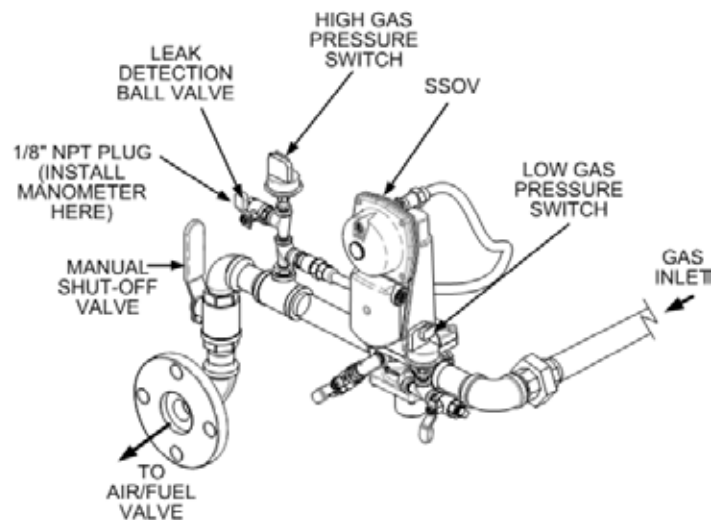

Figure 4-1. 1/8 Inch Gas Plug Location
3. Remove the 1/8 inch NPT pipe plug from the leak detection ball valve on the downstream side of the Safety Shut Off Valve (SSOV) as shown in Figure 4-1.